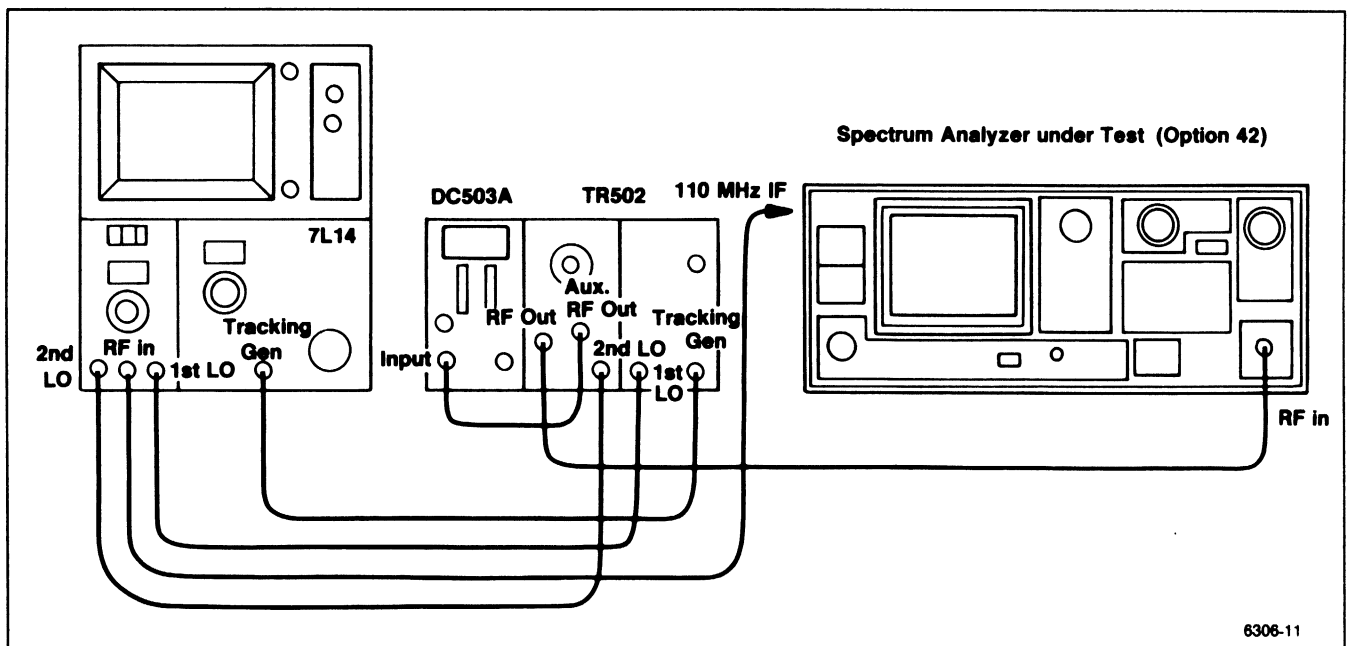

Figure 4-24. Test equipment setup for checking Option 42 frequency characteristics.
- a. Connect the test equipment as shown in Figure 4-24